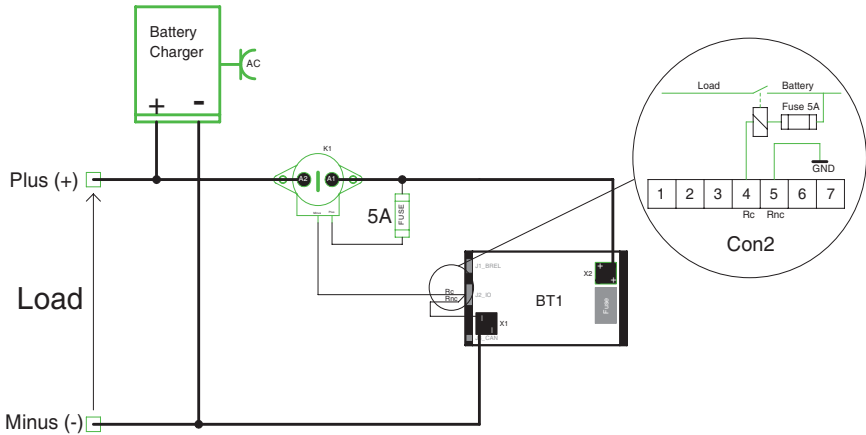

Figure 4. Connect a normal relay as Battery Disconnect device.
- When using a normal relay, connect it to Con 2 (I/O Connection 7), Pin 4 (Rc) and Pin 5 (Rnc) as displayed in Figure 4.